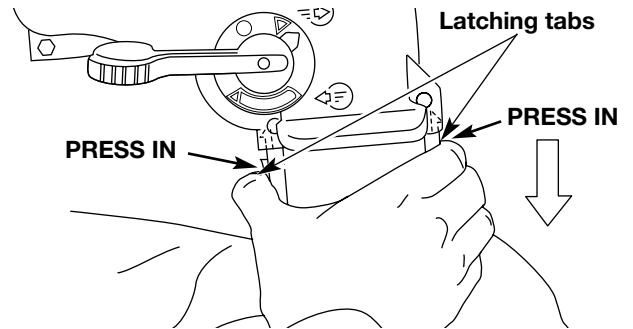

Fig. 22
1. While pressing the latching tabs on both sides of the vacuum bag tube, pull the vacuum bag down off the unit (Fig. 22).